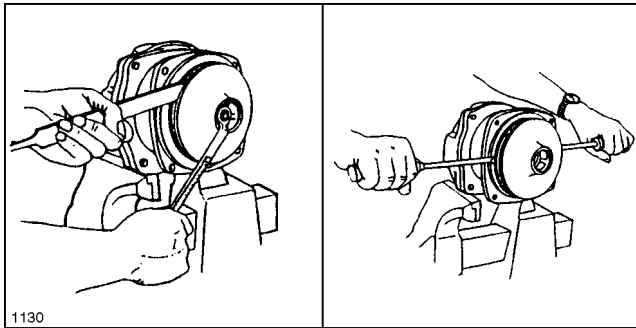

Figure 46
2. To remove the impeller nut, insert a large screwdriver or file (at least 10" long) into impeller vanes to prevent impeller from turning when loosening nut. Use a 5/8" socket wrench to remove the impeller nut by turning it counterclockwise. See Fig. 46.
3. Once nut is removed, place a screwdriver on each side (as in Fig. 46) behind the impeller and pry away from the mounting flange. Remove woodruff key from the shaft. Remove O-ring from the mounting flange.